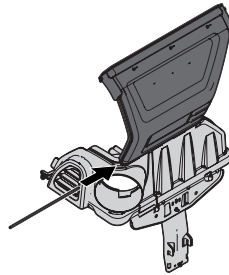

Figure 11
5. Install the bagger top cover by aligning the tabs of the cover and sliding the hinge pin into the channel as shown in Figure 11.